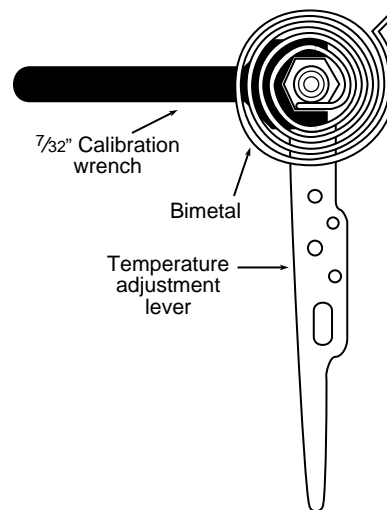

Figure 10. Calibrating thermostat
3. Remove thermostat cover. Slip $\frac{7}{32}$ " wrench onto hex nut beneath bimetal. While holding temperature adjustment lever stationary, turn hex nut clockwise until mercury shifts to the right end of the tube (see fig. 10).
7. Slip $\frac{7}{32}$ " wrench onto hex nut. While holding temperature adjustment lever stationary, turn hex nut counter-clockwise until mercury just barely shifts to the left end of the tube (see fig. 10).